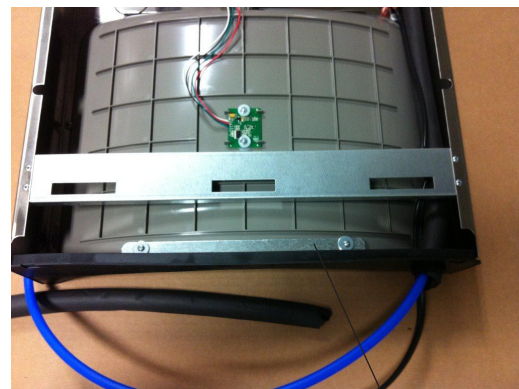

Fig. 9
- 6) Install gasket on bottom of bottle filler tower with gasket support bracket, (2) washers, & (2) screws (See Fig 9).